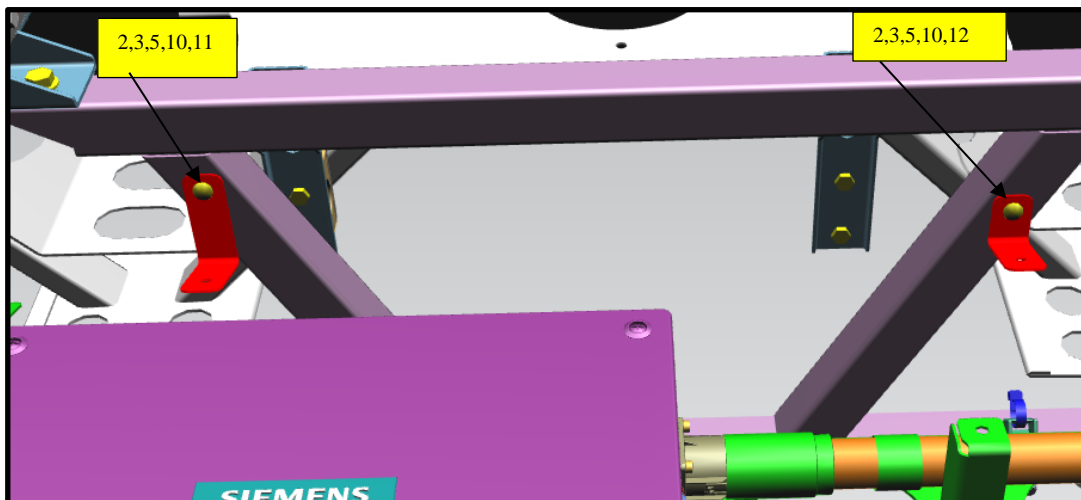

Figure 6: Forward secondary cover bracket mounting location reference.
16. Install Items #11 and #12 Brackets with items #3 Washers, #2 Screws, item #10 Never Seize and apply 1 or 2 drops of Loctite #5. See Figure 6.